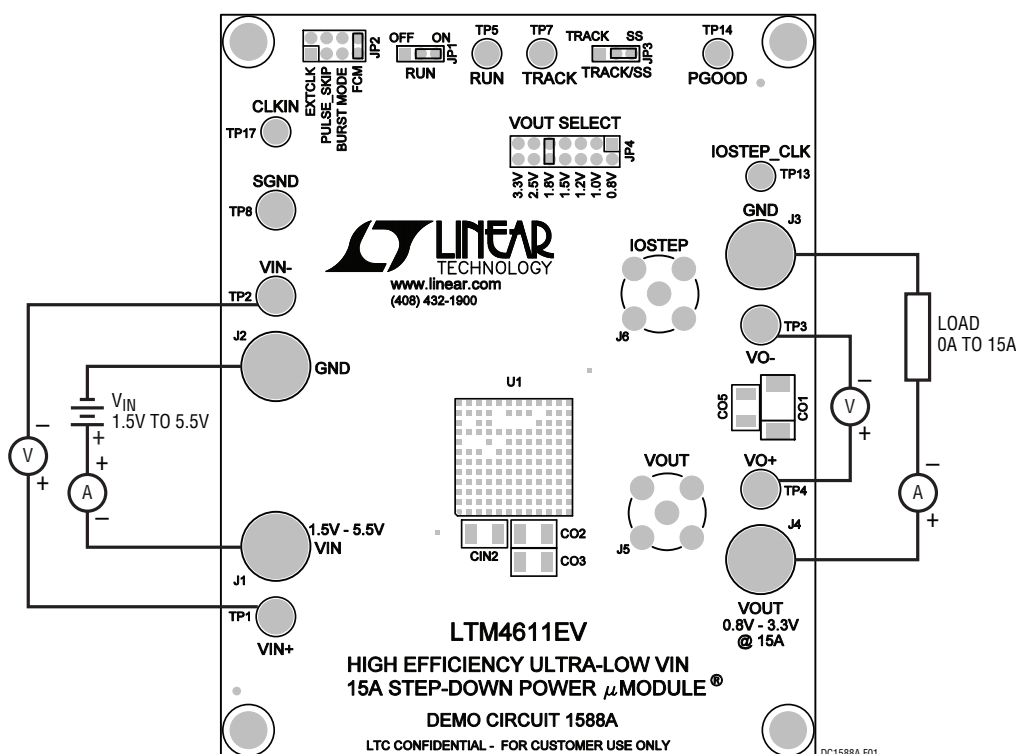

Figure 1. Test Setup of DC1588A
2. With power off, connect the input power supply, load and meters as shown in Figure 1. Preset the load to 0A and V_{IN} supply to be 5V.